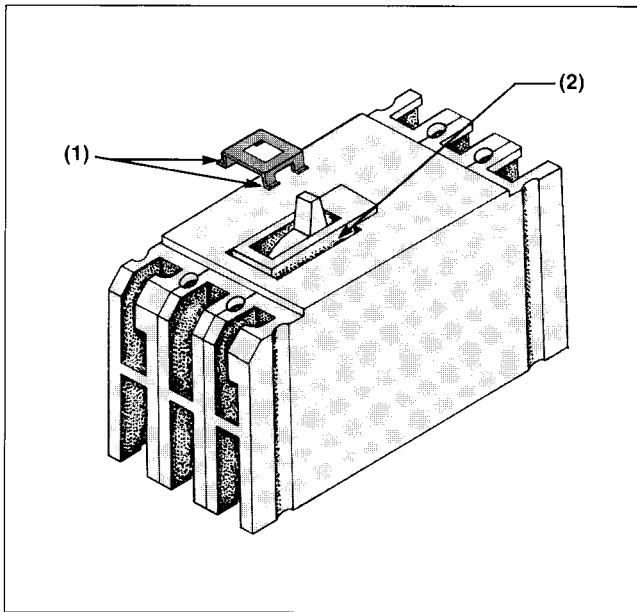

Figure 1
Turn breaker ON. Assemble blocking device to breaker by positioning it below handle (Figure 1). Insert tabs (1) into slots (2) on either side of pad.
Turn breaker OFF. Assemble blocking device to breaker by positioning it above handle (Figure 1). Insert tabs (1) into slots (2) on either side of pad (Figure 2).